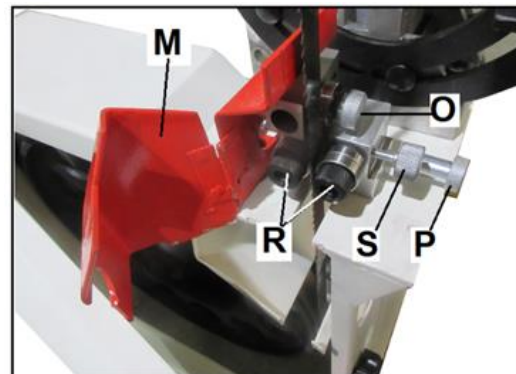

Figure 5-12: lower blade guides
4. Swing the lower blade guard (M – Figure 5-12) to the left.
Refer to Figures 5-12 and 5-13.
- Open lower door and swing lower guard (M, Figure 5-12) out of the way.